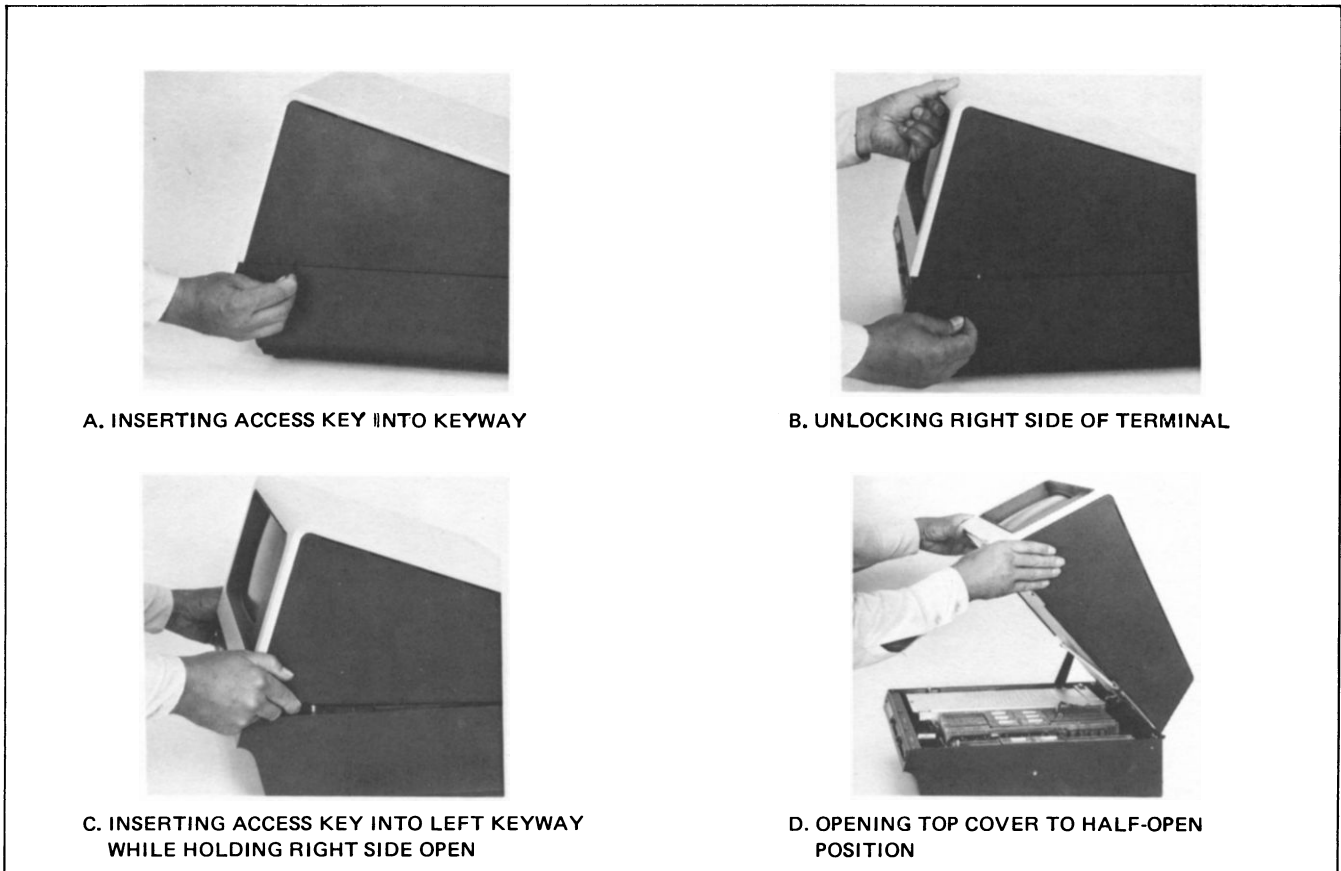

Figure 7-1. Opening the Terminal
To gain access to the terminal internal components, open the terminal as follows (also see figure 7-1):
- b. From front of terminal, insert access key into right keyway and unlock right side of terminal by slightly raising right side of top cover. (figure 7-1, A and B).
- c. While maintaining upward pressure to keep right side of terminal unlocked, insert access key into left keyway and raise top cover until both right and left sides of terminal are unlocked. (figure 7-1, C).
- d. Using both hands, carefully swing top cover up until it latches into the half open position. (figure 7-1, D).